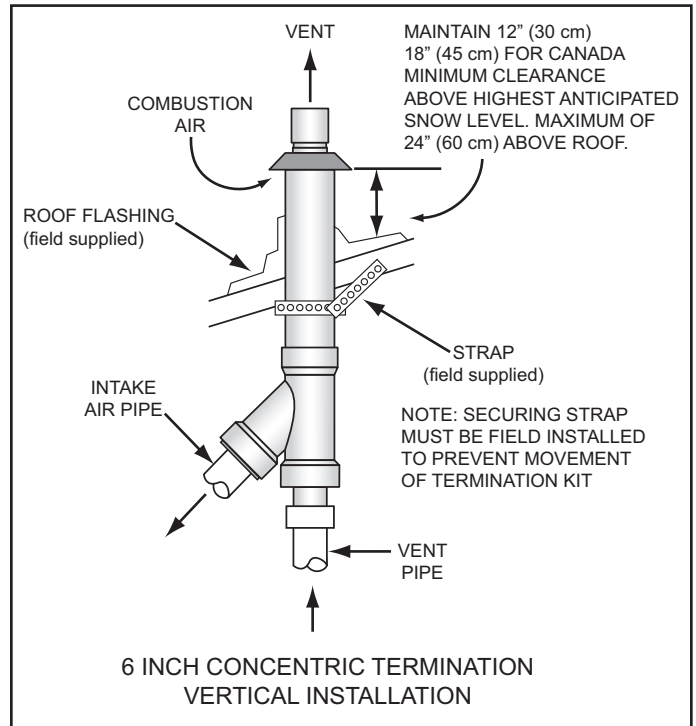

**Figure 29**
See Figure 26 on page 27 and Figure 29 on page 29 for the maximum and minimum lengths allowed for the 4 inch and 6 inch concentric terminations.
Assemble and install the 6 inch concentric termination. Refer to Figure 29, Figure 30 and Figure 31 for these instructions:
3. If the intake air piping being installed is 4 inch pipe, cement the 6" x 4" standard reducer bushing into the angle (intake air) end of the Y fitting as shown in Figure 29.